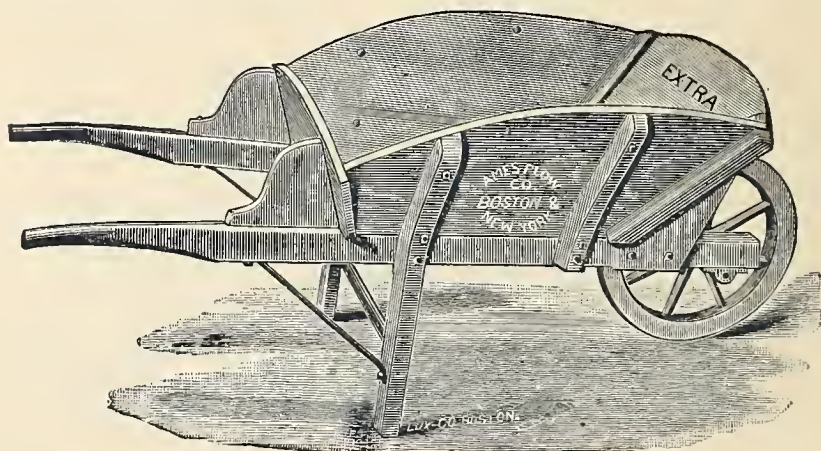

Fig. 529.—Extra Wood-Tray Coal-Barrow.
*The Extra Wood-Tray Coal-Barrow*, represented by *Fig. 529*, of which we manufacture two sizes, is very strong, and thoroughly bolted. It is used by railroads and steamboats, in foundries and engine-rooms, and for mining purposes.